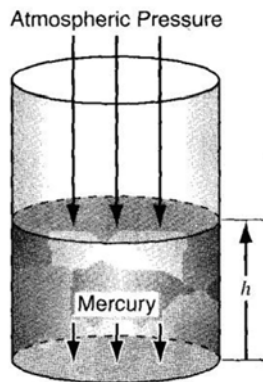

Figure 5.1 Pressure is the normal force per unit area. Arrows show the force exerted on the respective areas
**Pressure** is defined as “the normal (perpendicular) **force** per unit **area** (Figure 5.1). The pressure at the bottom of the static (nonmoving) column of mercury exerted on the sealing plate is
**For Example**, suppose that the cylinder of fluid in Figure 5.1 is a column of mercury that has an area of 1 cm2 and is 50 cm high. The density of the Hg is 13.55 g/cm3. Thus, the force exerted by the mercury alone on the 1 cm2 section of the bottom plate by the column of mercury is